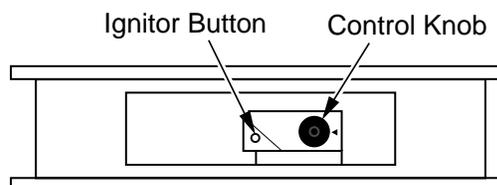

Figure 19 - Control Knob and Ignitor Button Location
4. Wait five (5) minutes to clear out any gas. Then smell for gas, including near the floor. If you smell gas, STOP! Follow "B" in the safety information, column 1. If you don't smell gas, go to the next step.
5. Turn control knob counterclockwise  to the PILOT position. Press in control knob for five (5) seconds (see Figure 19).